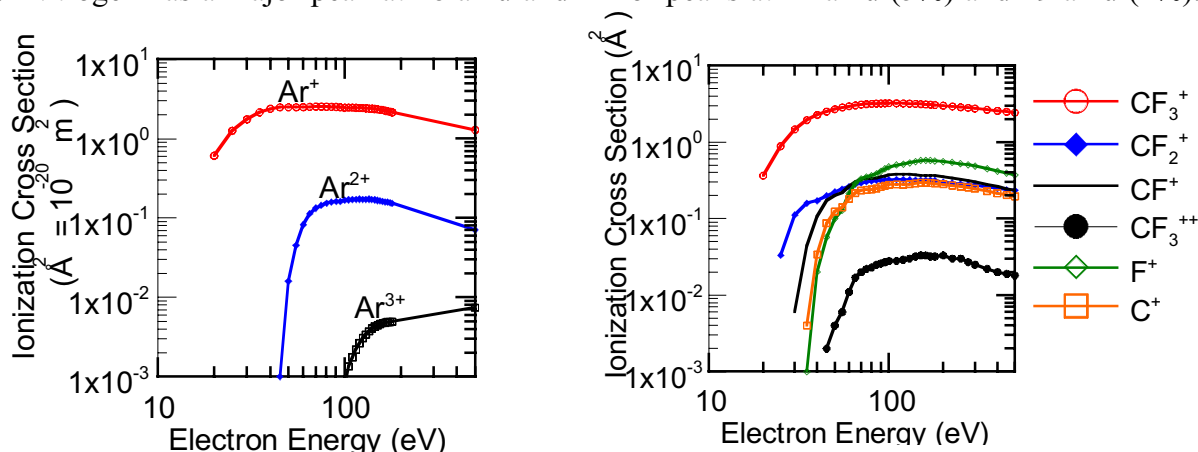

Figure 5: Electron impact ionization cross-sections for (a) Argon and (b) CF₄.
through the mass filter are attracted to it and neutralized. The current (I) flowing through the Faraday cup is measured using a fast electrometer and this current is the relative signal recorded by the RGA. The larger the current, the larger the signal and the more ions must have been present. Since current is simply the net flow of charge across a unit area plane per unit time, and since a multiply ionized molecule carries more charge than a singly ionized molecule, one should expect multiply ionized molecules to produce a larger signal for a given number of ions. For example: each Ar^{++} ion carries twice the charge of an Ar^+ ion; consequently the Ar^{++} signal should be twice as large as the Ar^+ signal if there are the exact same numbers of ions. This can cause the signal of multiply charged ions to be larger than that predicted by just using the ionization cross section in Fig. 5.